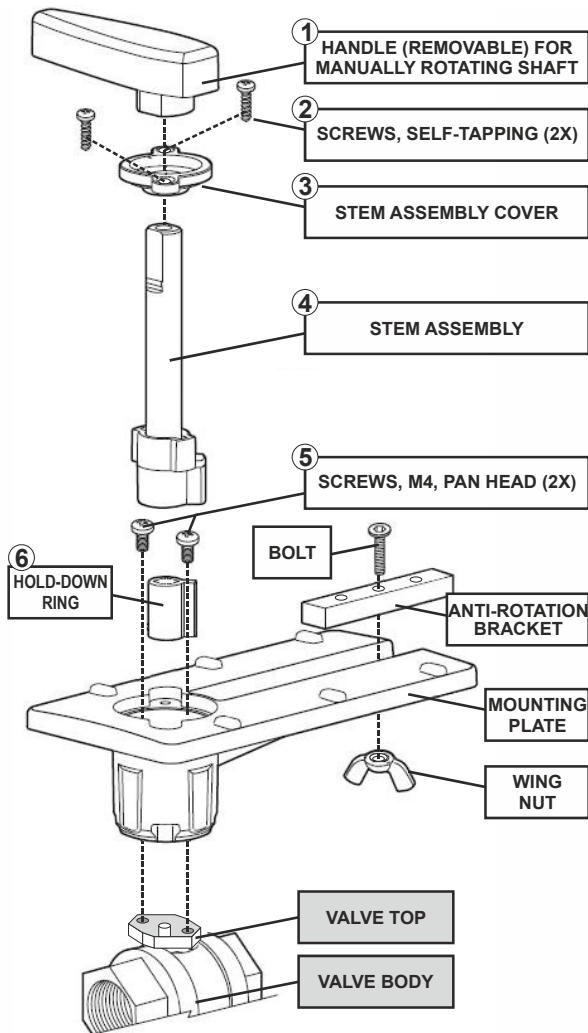

Fig. 15. Valve assembly, exploded view
2. Remove the two screws (2) that hold the stem assembly cover (3) to the mounting plate and set them aside.
3. Remove and set aside the stem assembly (4).
4. Remove and set aside the two screws (5) that attach the mounting plate to the valve.
5. Remove and set aside hold-down ring (6) from mounting plate.
7. Lower ring (6) down to valve body and engage it in the new position relative to the mounting plate.
**NOTE:** See Fig. 15 for valve exploded view.